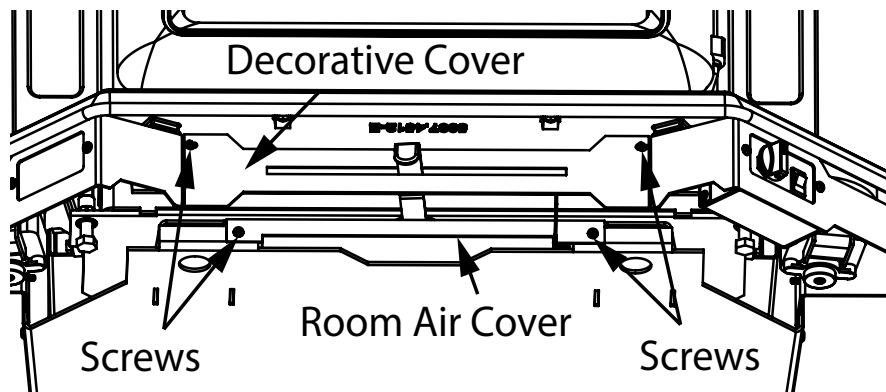

Figure 7: Super Insert LE - Room Air Supply Covers.
2. Room air supply: Remove the two screws securing the Decorative Cover under the ashlip. Remove the screws holding the Room Air Cover to the Base bottom and discard this cover. Re-install the Decorative Cover and tighten screws (Figure 7). Combustion Air will be drawn from the room through the front of the unit.